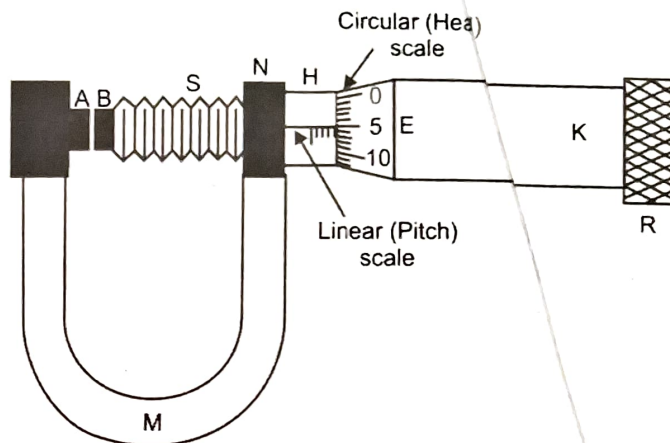

Fig. 15. Screw gauge
3. Now insert the wire between the screw and stud A. Move the screw forward by rotating the ratchet till the wire is gently gripped between A and B as shown in Fig. 15. Stop rotating ratchet when ratchet slips without moving the screw.
- 9 Now insert the given sheet between the screw and stud A. Move the screw forward by rotating the ratchet till the sheet is gently gripped between A and B as shown in Fig. 15. Stop to move ratchet when ratchet slips without moving the screw.